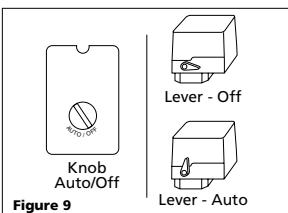

Figure 9
4. Turn pressure switch lever or knob to AUTO position and run unit for 30 minutes to break in the pump parts (See Figure 9).